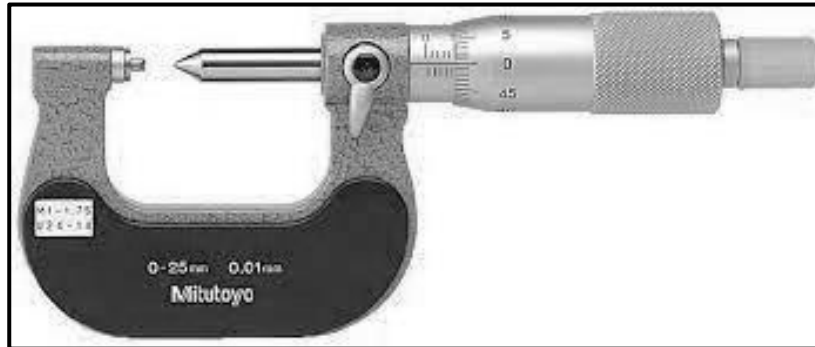

FIGURE 4.6
4.6 Identify the type of micrometer in FIGURE 4.6 below.